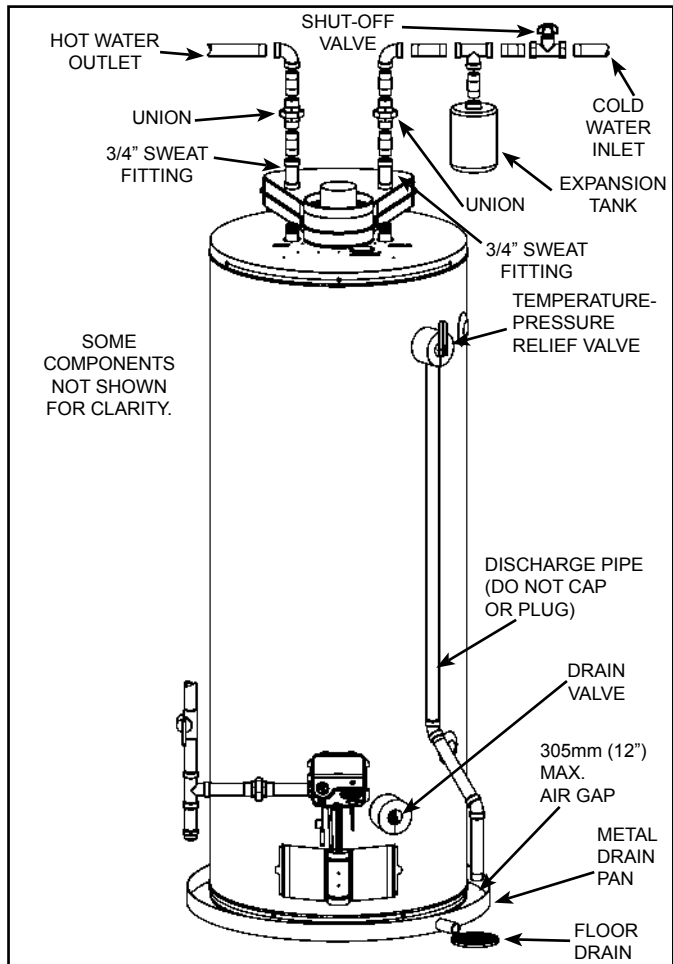

Figure 9
Piping, fittings, and valves should be installed according to the installation drawing (see Figure 9). If the indoor installation area is subject to freezing temperatures, the water piping must be protected by insulation.
1. Install the water piping and fittings as shown in Figure 9. Connect the cold water supply (3/4" NPT) to the cold water inlet fitting. Connect the hot water supply (3/4" NPT) to the hot water outlet fitting.
Figure 9 shows typical attachment of water piping to the water heater. The water heater is equipped with 3/4" NPT water connections.
1. Close the water heater drain valve by turning handle to the right (clockwise). The drain valve is on the lower front of water heater (see Figure 9).